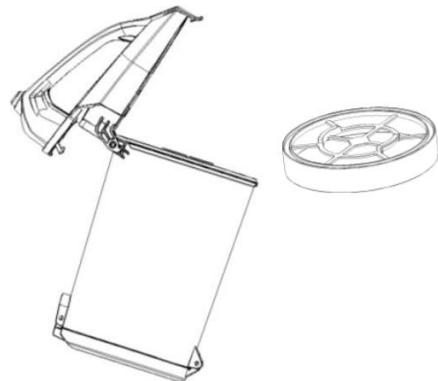

Fig.17
- 4) Fig.17 – remove the HEPA and cyclone assembly.